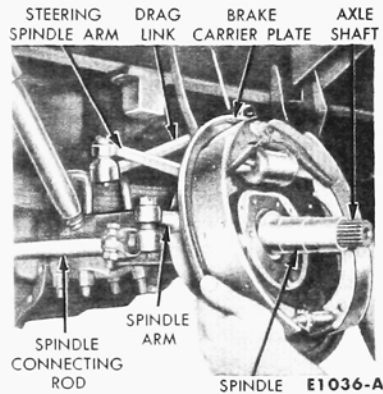

FIG. 9—Brake Carrier Plate Removal or Installation
5. Remove the cap screws which retain the brake carrier plate and spindle to the spindle arm. Remove the brake carrier plate and spindle (Fig. 9).